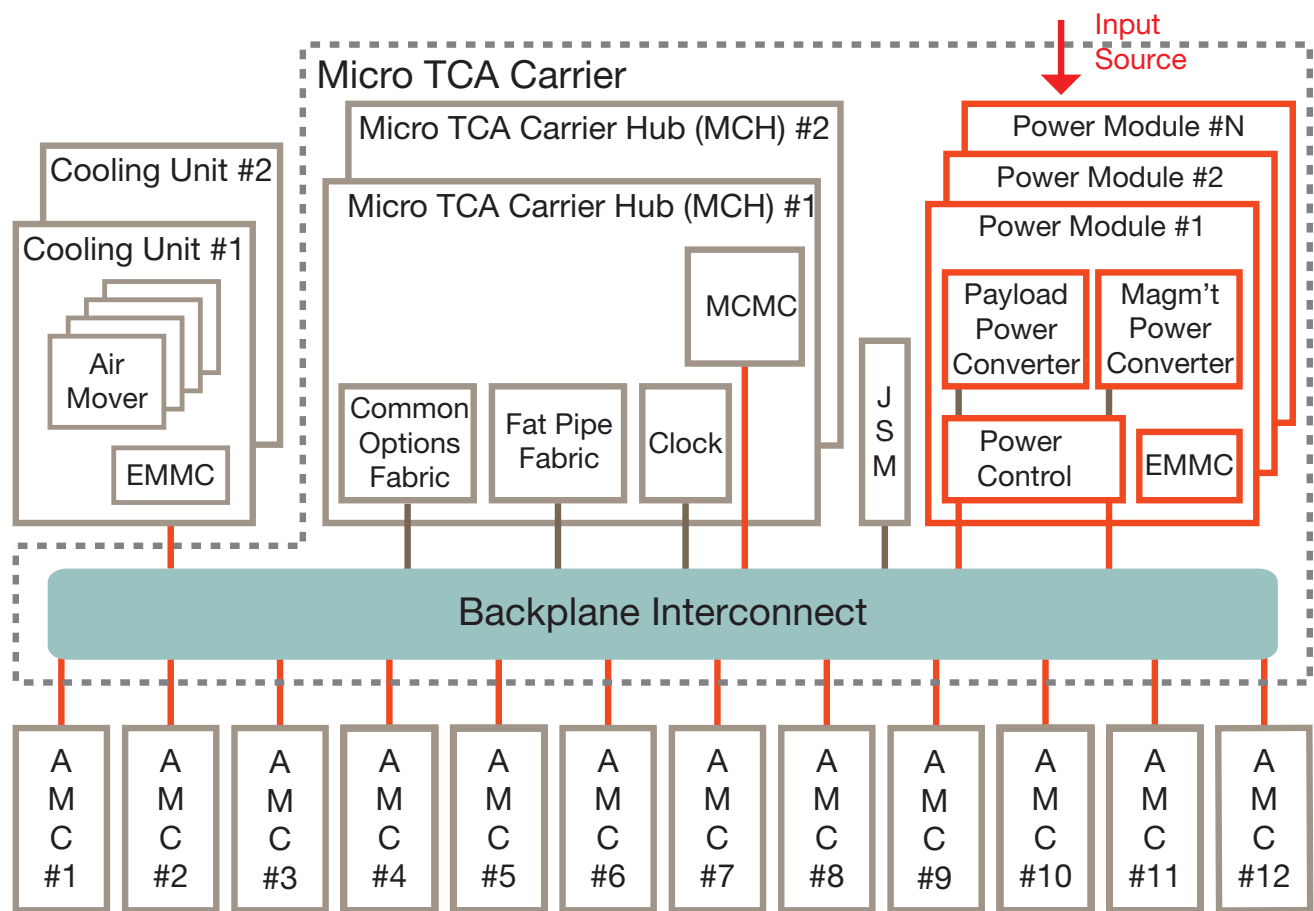

Figure 1 - MicroTCA block diagram with parts of the power system highlighted
The MicroTCA platform requires all payload circuitry to reside in AdvancedMC™ (AMC) modules and centralizes all the main power conversion/control functions for a sub-rack into one or more PMs. The overall architecture of a MicroTCA system is shown in Figure 1. The system as shown in the figure supports up to a maximum of 12 AMC modules which contain the payload circuitry, and each of these AMCs is specified to require from 20 to 80 watts of payload power. The MCH function provides overall control for the interconnected AMCs. A second redundant MCH is often added for systems with high availability requirements. Similarly, a second redundant cooling unit (CU) is sometimes used. The backplane is used as an interconnection mechanism for all of these elements.